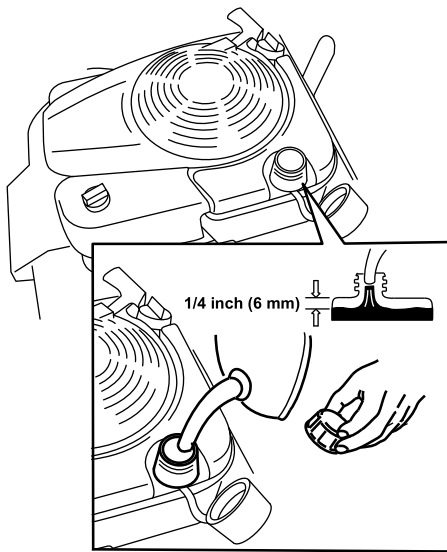

Figure 11
1. Clean around the fuel-tank cap, and remove the cap from the tank (Figure 11).
2. Fill the fuel tank, leaving at least 1/4 inch (6 mm) from the bottom of the neck empty to allow the gasoline room to expand (Figure 11).